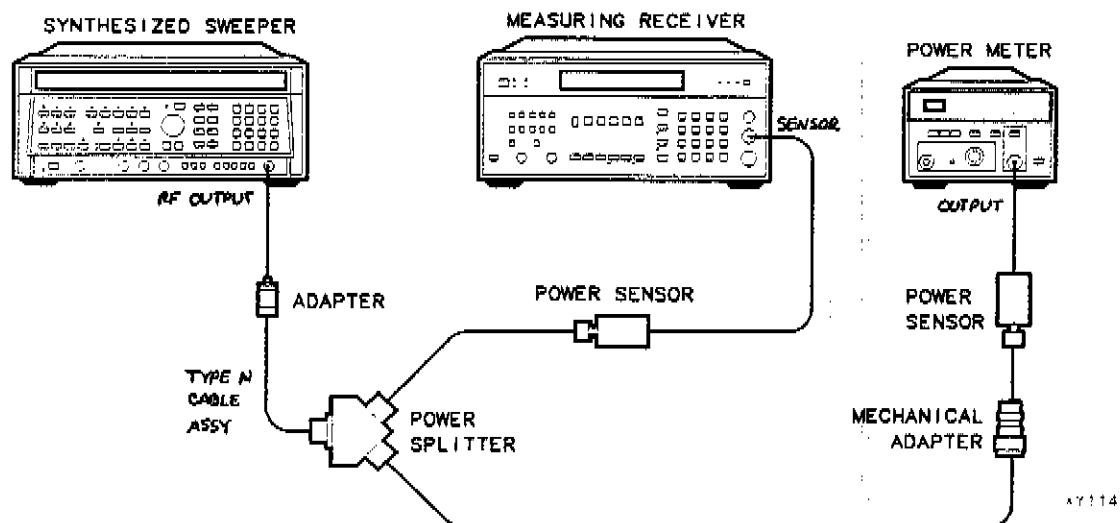

Figure 1-14. System Characterization Test Setup (Option 001)
4. Connect the equipment as shown in Figure 1-14.